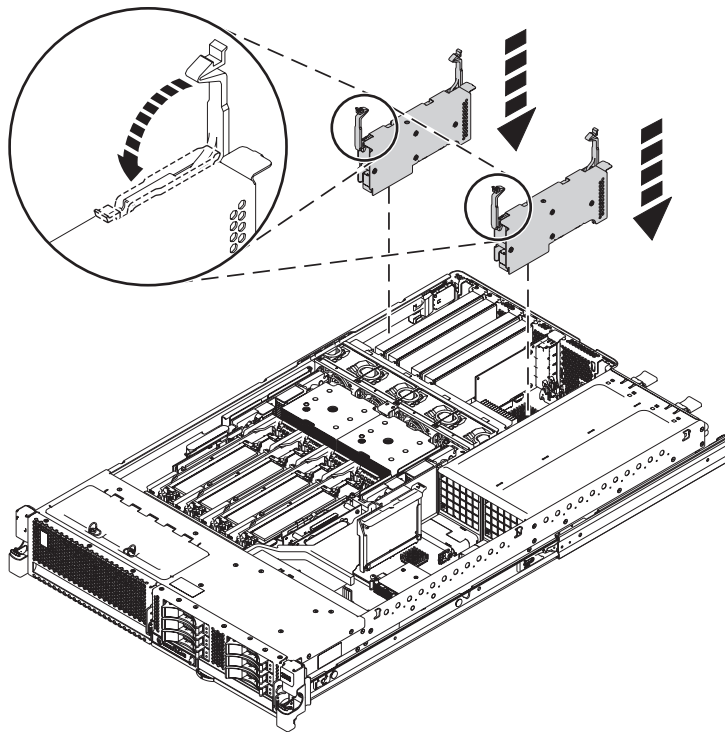

Figure 7. Adapter installation in a rack-mounted system
4. Evenly rotate the tabs into the locked position, as shown in Figure 7.